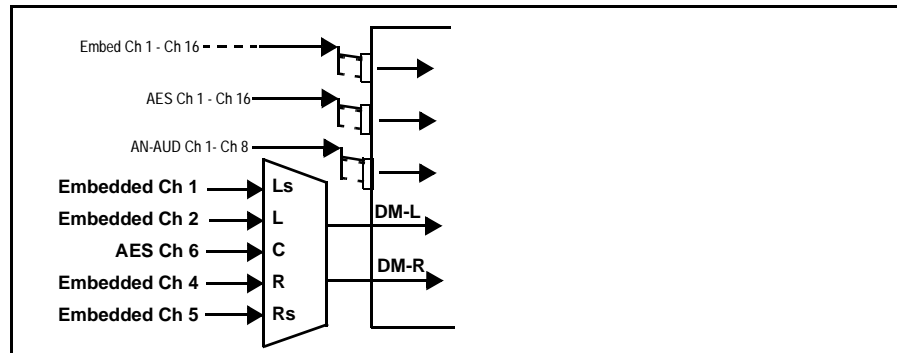

Figure 1-4 Audio Mixing Functional Block Diagram with Example Sources
(See Figure 1-4.) The Audio Down Mixer function provides for the selection of any five embedded, AES discrete, or analog audio sources serving as Left (L), Right (R), Center (C), Left Surround (Ls), and Right Surround (Rs) individual signals to be multiplexed into a stereo pair (Down Mix Left (DM-L) and Down Mix Right (DM-R)). The resulting stereo pair DM-L and DM-R can in turn be routed and processed just like any of the other audio sources described earlier.